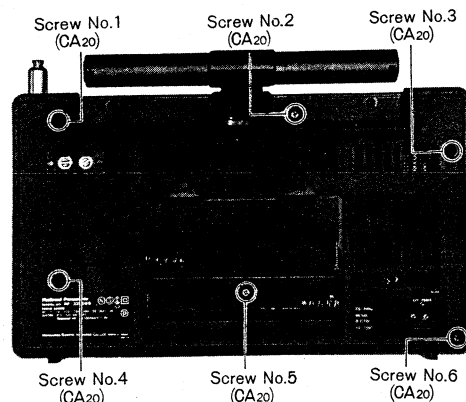

Fig. 1
2. Remove the ten (10) knobs for the FM AFC, X-TAL MARKER, VOLUME, BASS, TREBLE, TUNING SPEED, BAND and MW/SW RF GAIN.
5. Remove the six (6) screws for the cabinet cover, as shown in fig. 1.